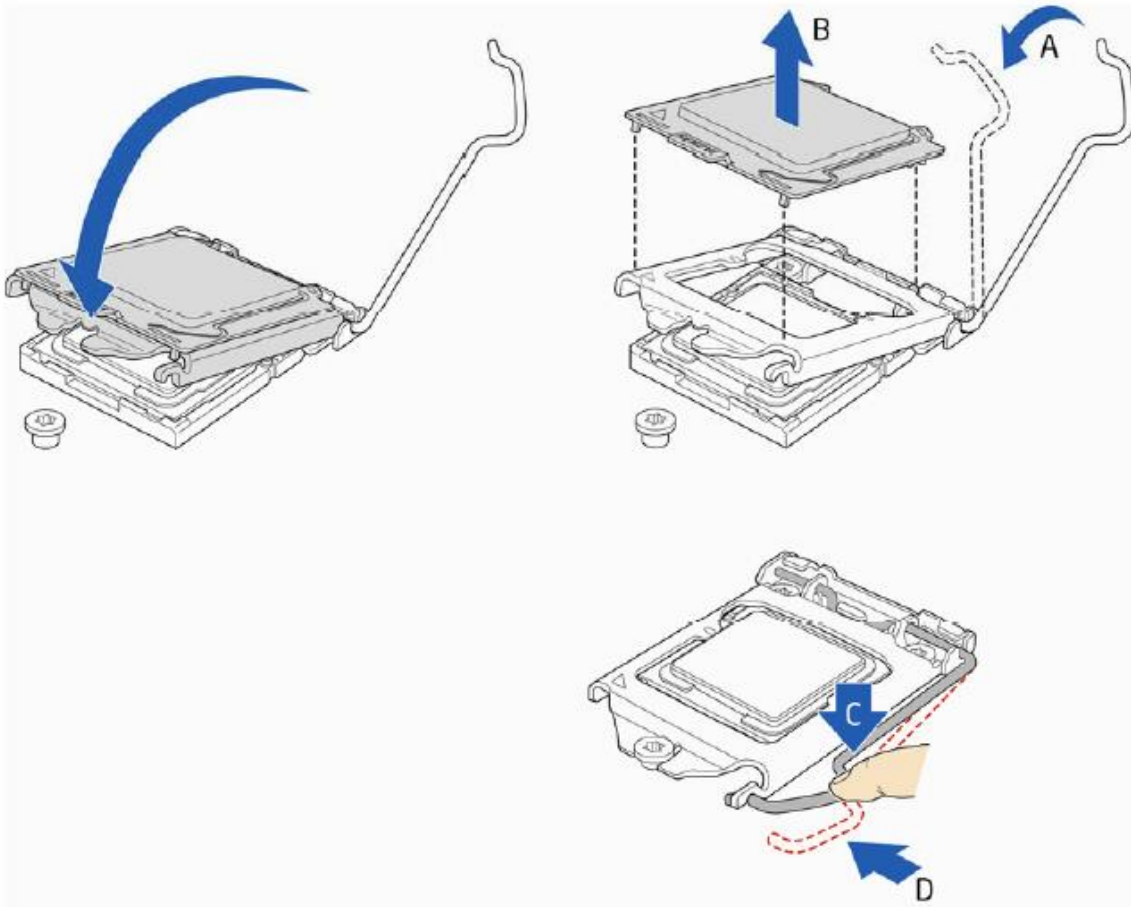

Figure 8: Secure the load plate in place
5. Carefully lower the socket lever (Figure 8) while making sure that the front edge of the load plate slides under the shoulder screw cap as the lever is lowered. Latch the socket lever under the load plate tab (Figure 8, C, and D). The socket cover (Figure 8, B) will pop off as shown.